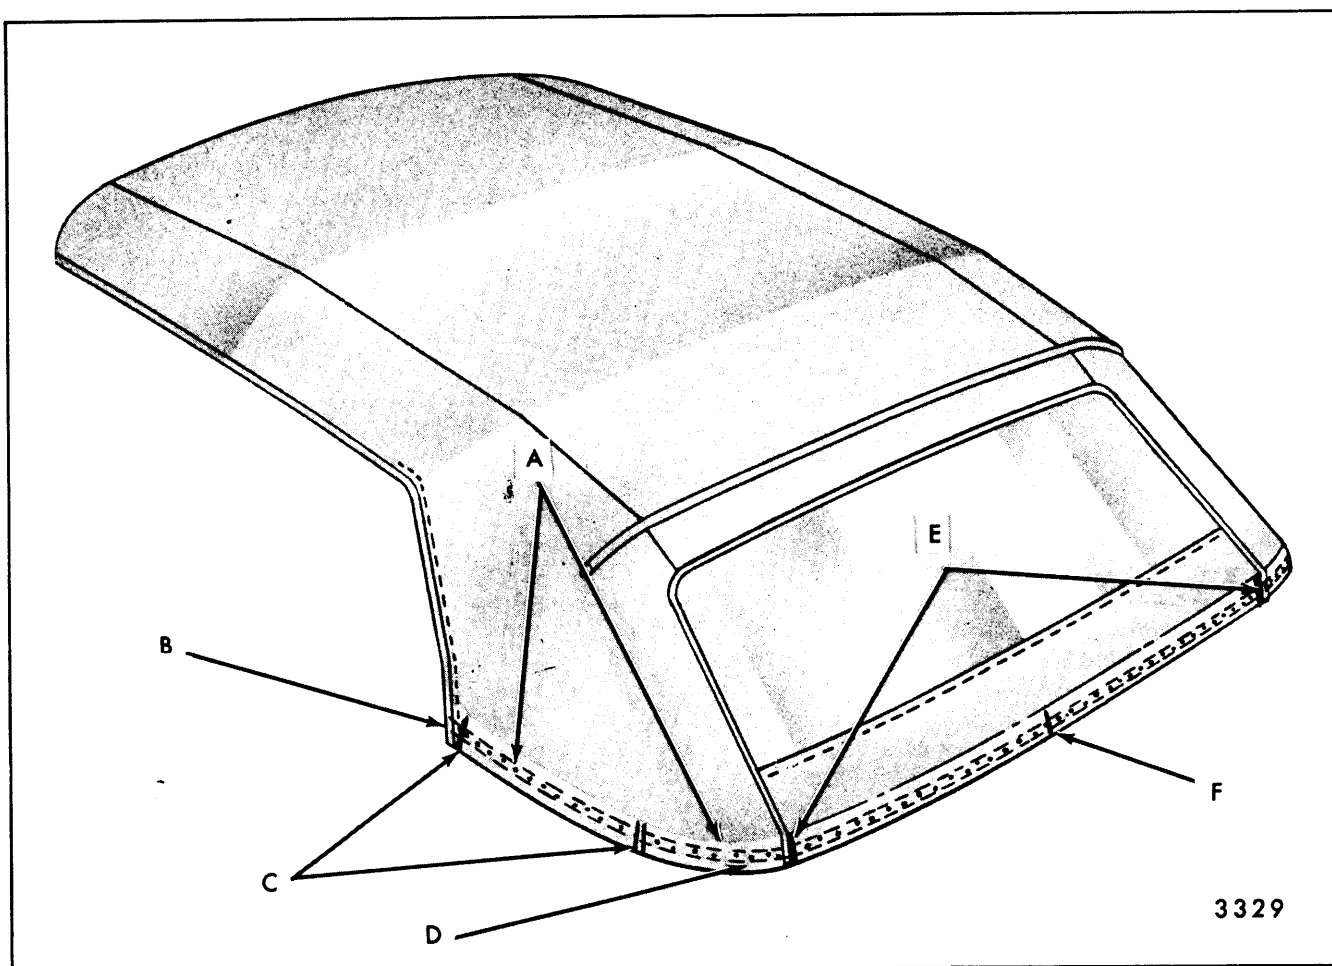

Fig. 13-40—Reference Marks on Top Cover and Back Curtain
2. Mark position of top cover vertical edges on back curtain valance at rear belt line. Use sharpened grease pencil (Fig. 13-40).
12. Using a sharp pencil, accurately mark location of complete rear trimstick(s) (upper and lower edges and ends) on outer surface of top cover and on back curtain. Re-check, and mark right and left inner vertical edge of top cover on back curtain at trim stick (Fig. 13-40). Make center mark on curtain at "V" notch on trimstick.
11. Position and locate top cover to trimstick(s) according to reference marks and tack top cover to trimstick(s). Tack from top cover inner vertical edge reference on back curtain toward front. Avoid excessive stretching, but keep material flat during tacking operations (Fig. 13-40).